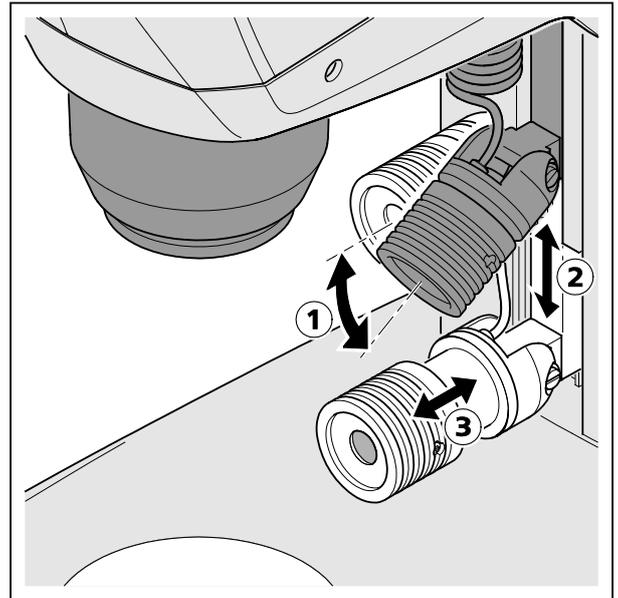

Fig. 15 Setting the spot illuminator
- Push spot illuminator in the guide to the required height (Fig. 15/2).
- Set the angle (Fig. 15/1) via the pivot of the spot illuminator so that the object is optimally illuminated.
- Set size and brightness of the spot by axially shifting the focusing unit (Fig. 15/3) (illumination zoom).